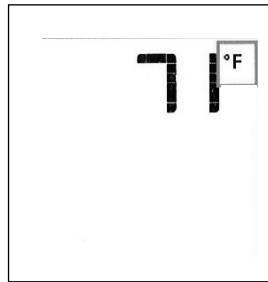

Figure 61. Room temperature readings
- With the transmitter in the OFF position, press the Thermostat Key and the Mode Key at the same time. The display screen will show the current room temperature cycling between Fahrenheit and Celsius indicators each time the keys are pressed simultaneously. See fig. 61.